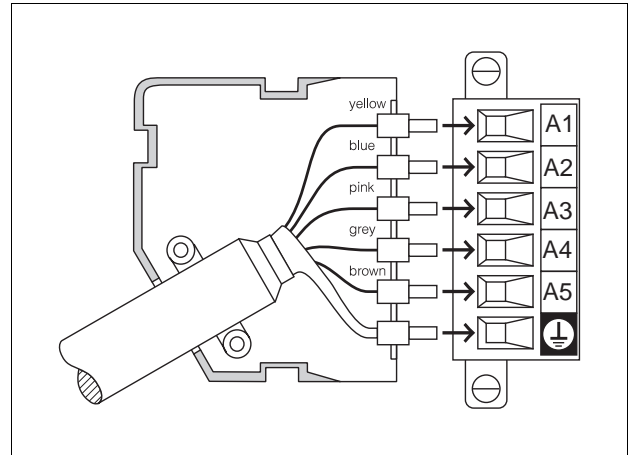

Fig. 2-4 Motor connector – unit side
1. Loosen screws and remove motor connector (fig. 2-4).